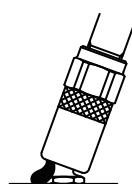

Fig. 5
- 4) Remove the hydro chuck of the grease gun. Since pressure is applied to the hydro chuck, the head of the grease nipple may be broken if it is suddenly pulled. Incline the hydro chuck to bleed the internal pressure and loosen the claw bite, and the chuck can be easily removed. (Fig. 5)